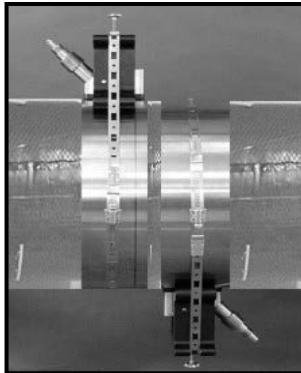

Figure 27: Completed DMP-1 Installation
6. Wrap each of these strips around the pipe on the outside edge of the clamping fixture, one upstream and one downstream. The completed installation should appear similar to *Figure 27* below.